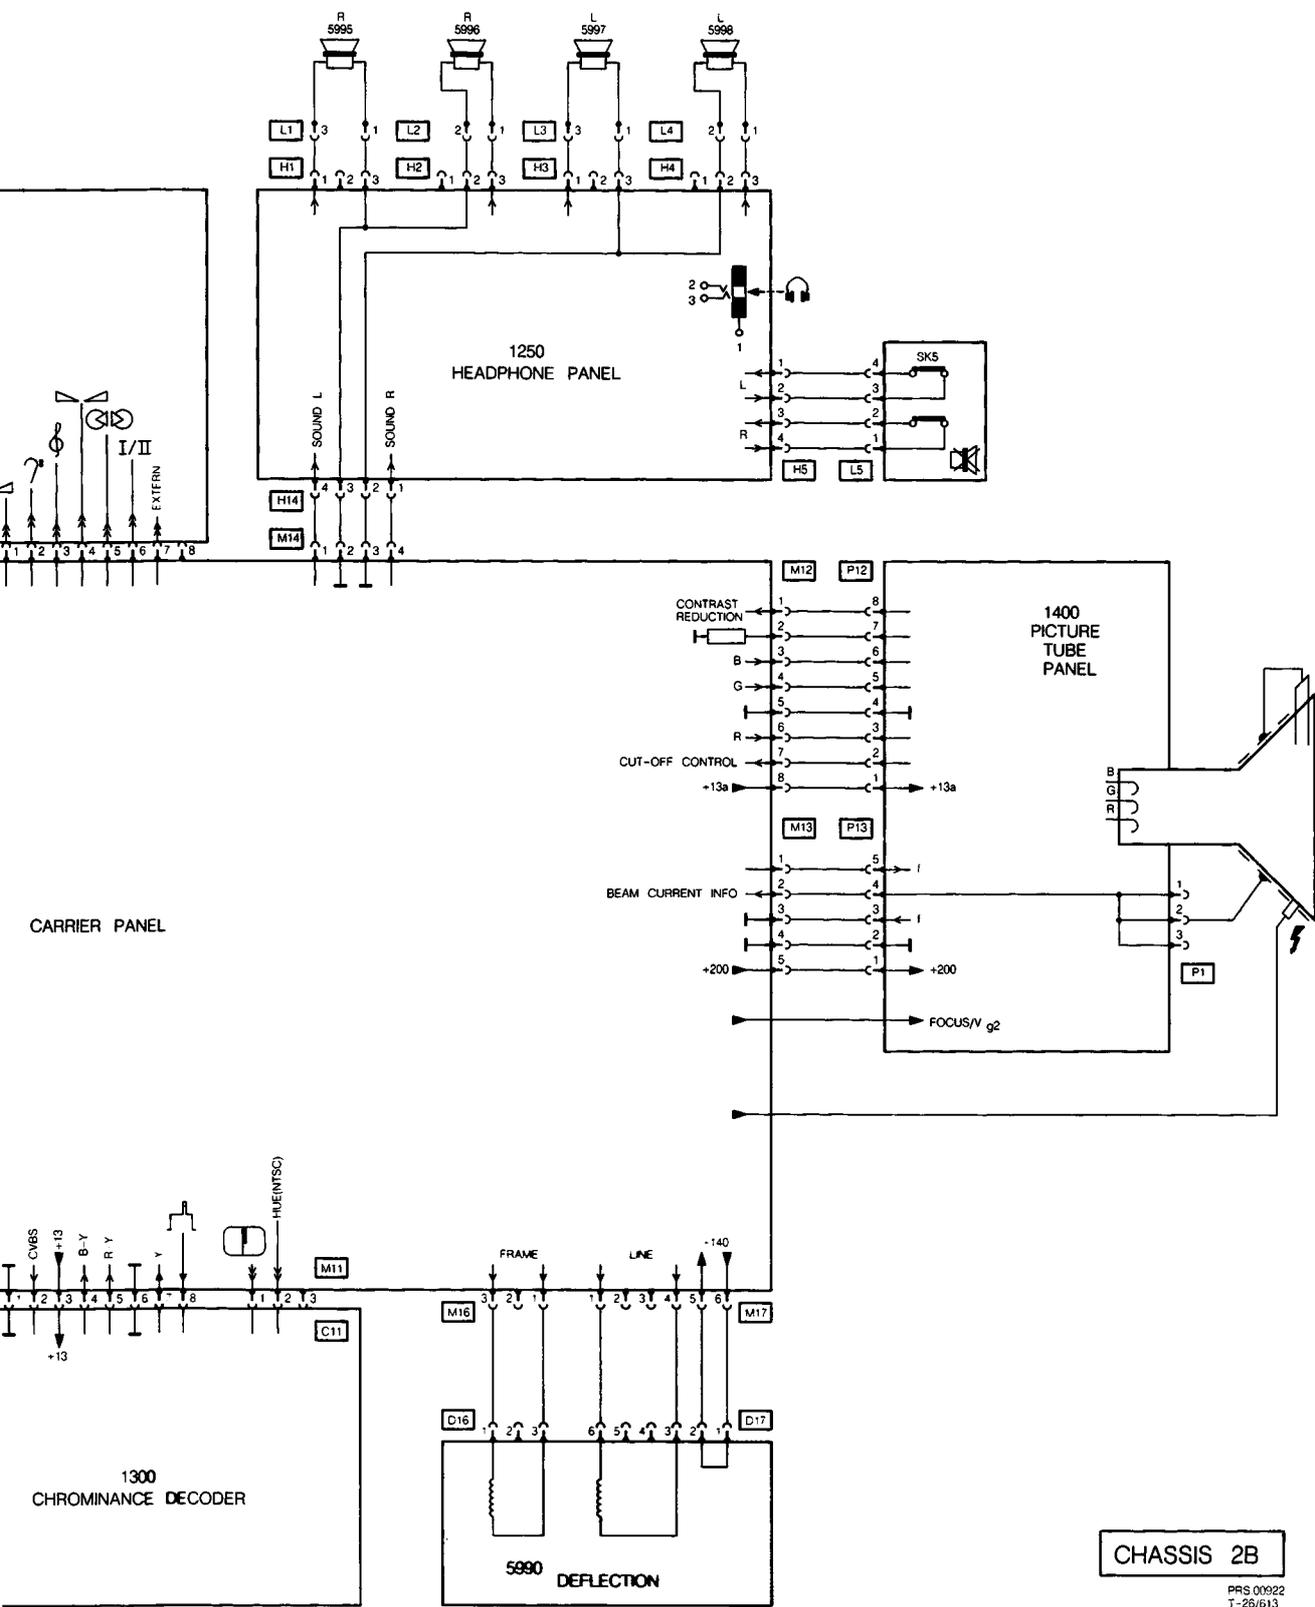

Fig. 2
- d. Set the brightness control so that the level of the black bar in the video signal is situated at 3 V (see Fig. 2).